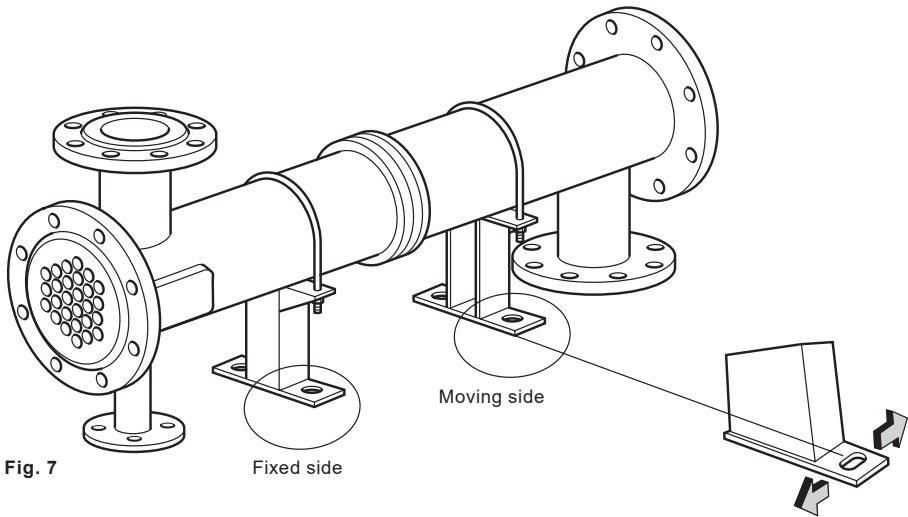

Fig. 7
4.6 Loosen the saddle bolts at one end of unit to allow free expansion (Figure 7).